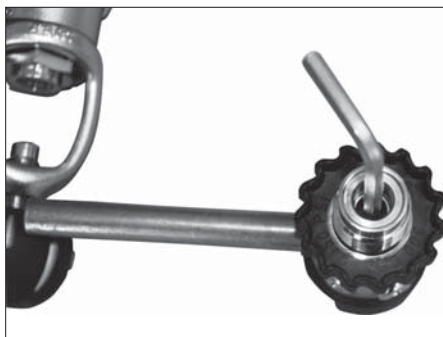

FIG. 2
4. Insert an 5-mm Allen wrench (B-4) inside the DIN fitting (24) and unscrew it completely (Fig. 2).
5. Remove the DIN fitting (24) and the DIN ring nut (11).
6. Remove the O-Ring (26) from the DIN fitting body (24).